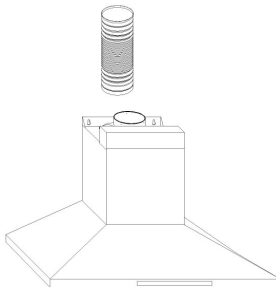

Fig.5
- 1. Remove the grease filter by pressing the latch on the filter (Fig5). This will disengage the filter from the hood. Tilt the filter downward and remove.